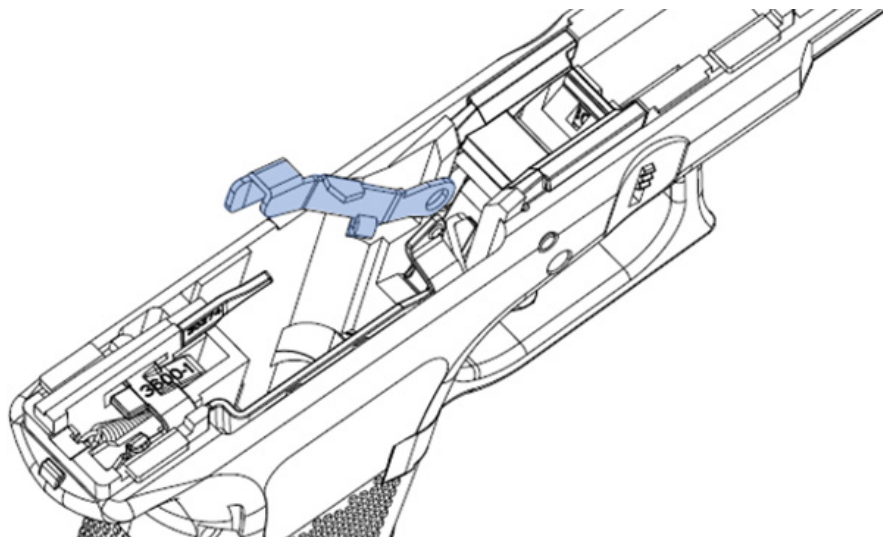

Figure 50: Slide Stop Lever assembly.
e) Insert the Slide Stop Lever with its spring facing upward and forward (Figure 50).